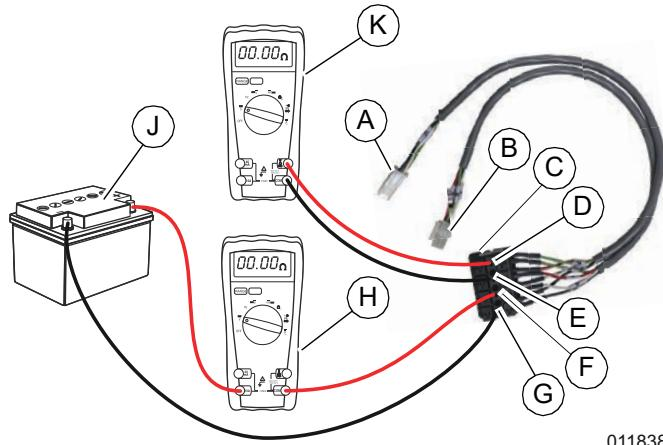

Figure 3. J3 Breakout Harness Testing Setup
5. See **Figure 3**. Apply DC power to Wire 4 (F) and Wire 0 (G) test points of the WAGO end (C) of the J3 breakout harness using a 12 VDC power supply (generator battery) (J) with the DMM (H) in series.
3. See **Figure 3**. Connect female end (B) of J3 breakout harness to generator harness.
4. Set first DMM (H) to measure current (10A). See DMM manufacturer's specific instructions to configure for amp draw testing.
5. Set second DMM (K) to measure AC volts. Insert DMM test leads into AC Excitation (Wire 2 and 6) test points.
6. See **Figure 3**. Apply DC power to Wire 4 and Wire 0 test points of the WAGO end of the J3 breakout harness using a 12 VDC power supply (generator battery) with the DMM in series.